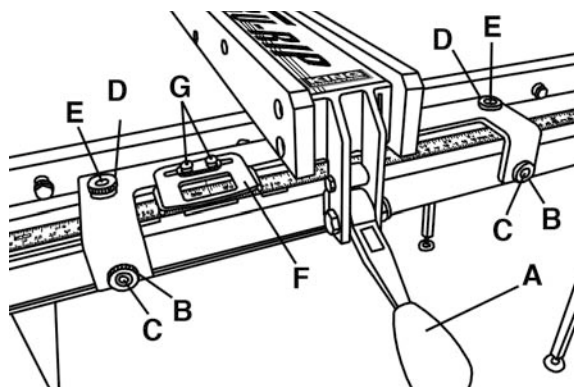
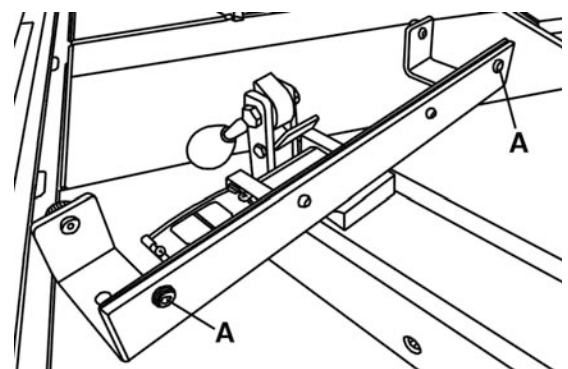

FIGURE 18
FIGURE 19
The rip fence must be perfectly aligned with the table T-slot, to verify this, align the edge of the rip fence with the table T-slot and lower the locking lever (A) Fig. 18 to lock in into place. Check to see if the edge of the rip fence and the table T-slot are parallel. If they are not parallel, unlock the rip fence and turn it upside down. Adjust the set screws (A) Fig.19 in or out, verify your adjustment, repeat if necessary.
The lock lever pressure can be adjusted by loosening the front lock nuts (B) Fig.18 and adjusting the set screws (C) the same amount, make sure the fence remains parallel with the table T-slot. Retighten lock nuts. To set the fence perpendicular to the table, place a square on the table and against the side of the fence, loosen the top lock nuts (D) and adjust the set screws (E) until the fence is perpendicular. Retighten lock nuts. The pointer window (F) Fig.18 position can be adjusted if needed, loosen pan head screws (G), reposition the pointer window and retighten pan head screws.